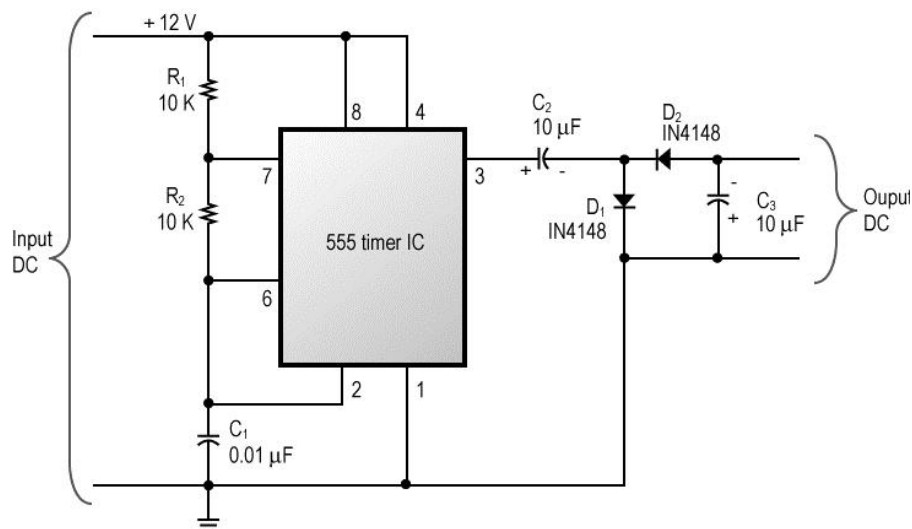

Figure 1. Basic Circuit
The basic circuit is illustrated in Figure 1. The frequency of oscillation of the 555 timer is set by R_1 , R_2 , and C_1 as is usual in most 555 astables.
1. Construct the circuit shown in Figure 1 at the end of this procedure. Carefully observe the diode and capacitor polarities to ensure proper operation and avoid damage.